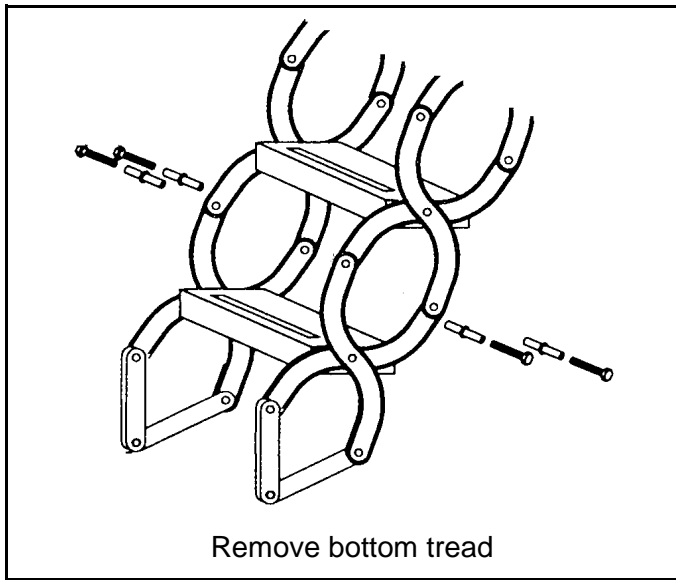

Figure 8
1. With stair fully extended to floor, detach bottom step by removing the four bolts, washers and sleeves. Figure 8. This tread will be added back at the end.